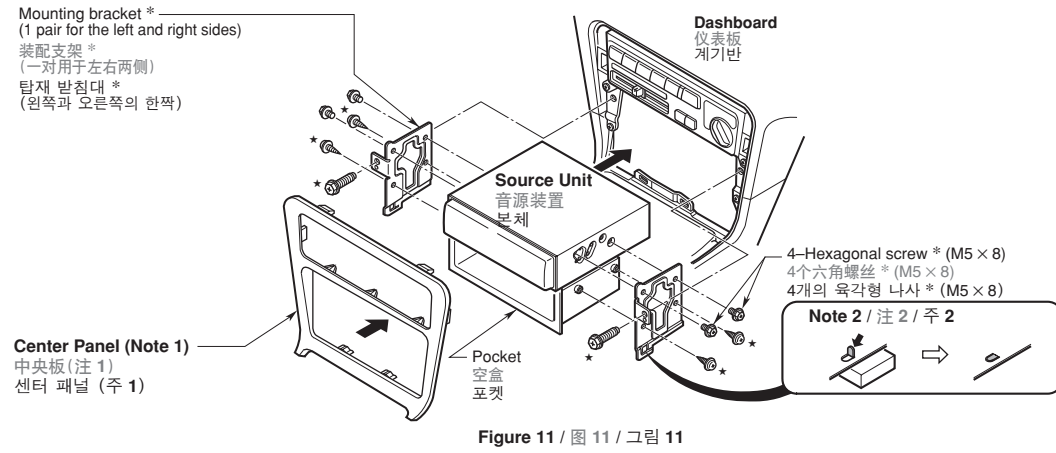

Figure 11 / 图 11 / 그림 11
If the vehicle is equipped with a factory-installed radio, install the source unit with the parts and screws marked (*). (Figure 11)
- Secure the mounting brackets to the chassis as shown in Figure 11. When the source unit is installed without the universal mounting bracket, holes exist; modification, such as drilling new holes, of the mounting brackets may be required for other models.
如果汽车装备有出厂时安装好的收音机, 请用带星号(*)的零件和螺丝安装音源装置。(图11)
如果汽车不装备出厂时安装好的收音机, 请用安装工具按照以下步骤安装音源装置。1: 如图11所示, 将装配支架固定在底盘上。在不使用通用装配支架的情况下安装主机时, 有现成的安装孔。其它车型可能需要改造装配支架, 如钻出新孔等。